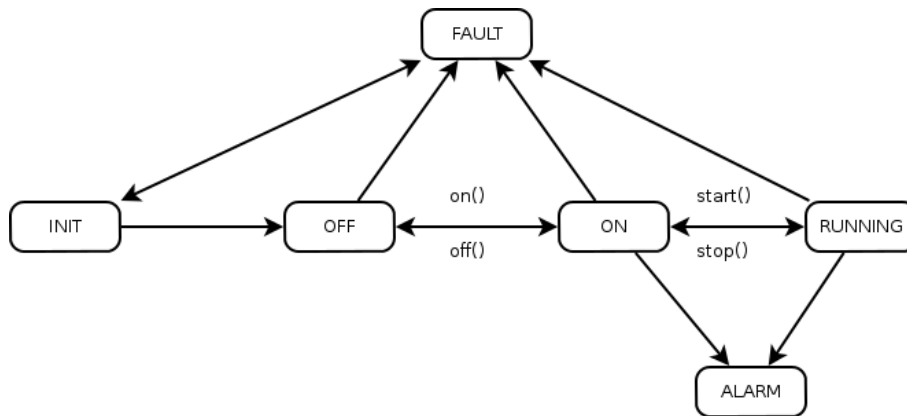

Figure 1: State machine diagram of the Device in the Skippy Device Server
**TODO:** “*explain the figure 1*”